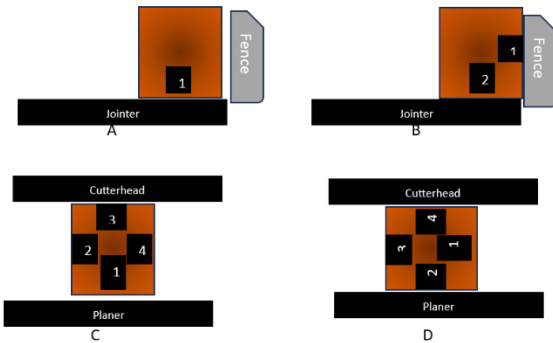

Figure 30.
7. The setting of the Feed Roller Chain (#227, FIG. 30, D) is preset at the factory and typically does not need adjustments. However, to modify the chain overlap, adjust the Pulley with Sleeves (#32, E) by moving it in or out using its center Bolt and Nut (#20 & 31).